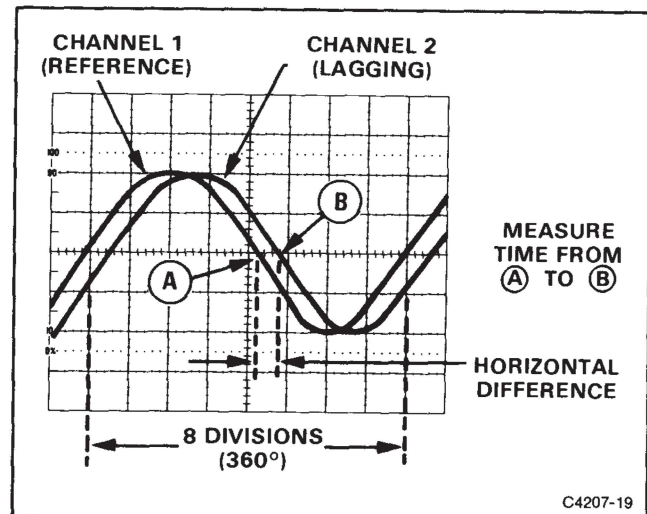
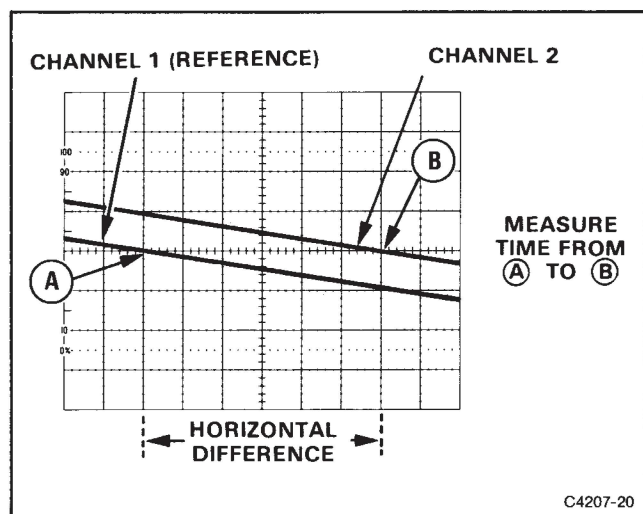

Figure 4-8. Phase difference.
Figure 4-9. High-resolution phase difference.
9. Position the displays and adjust the SEC/DIV Variable control so that one reference-signal cycle occupies exactly 8 horizontal graticule divisions at the 50% rise-time points (see Figure 4-8). Each division of the graticule now represents 45° of the cycle ($360^\circ \div 8$ divisions), and the horizontal graticule calibration can be stated as 45° per division.
Example: The horizontal difference is 0.6 division with a graticule calibration of 45° per division as shown in Figure 4-8.
EXAMPLE: If the sweep speed were increased 10 times with the magnifier (X10 Magnifier button out), the magnified horizontal graticule calibration would be $45^\circ/\text{division}$ divided by 10 (or $4.5^\circ/\text{division}$). Figure 4-9 shows the same signals illustrated in Figure 4-8, but magnifying the displays results in a horizontal difference of 6 divisions between the two signals.